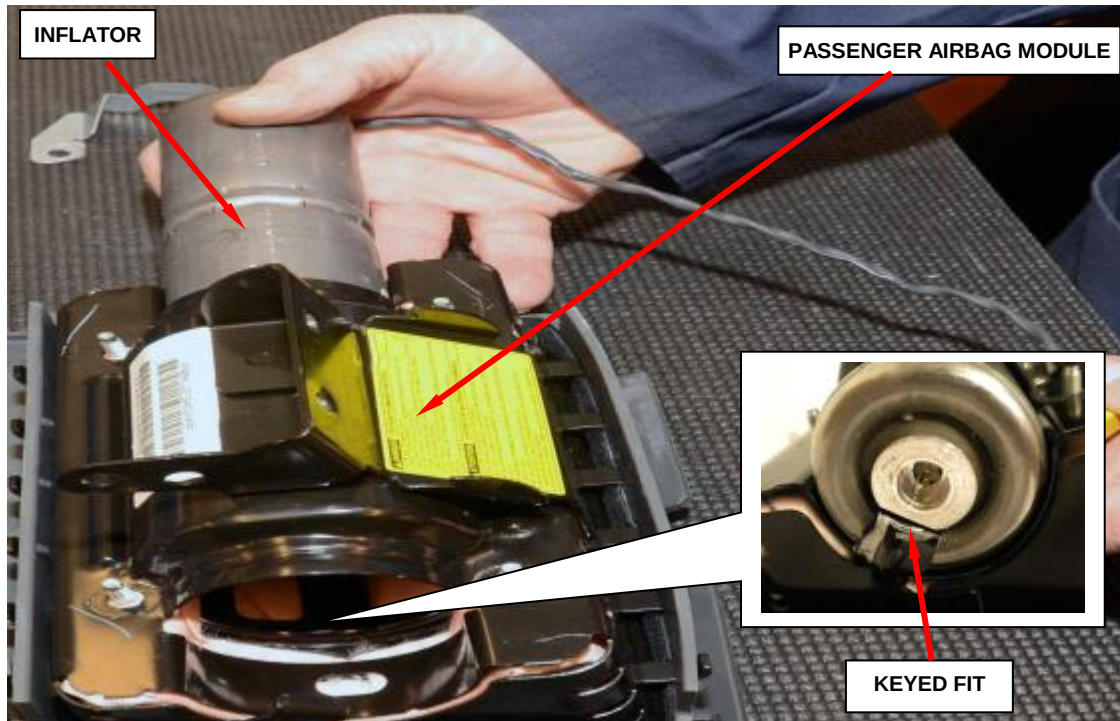

Figure 67 – Passenger Airbag Inflator to Housing
- f. Slide the inflator out of the passenger airbag module (Figure 67).
NOTE: The inflator's key MUST line up with the housing's key (Figure 67).
- m. Slide the **new** inflator into the passenger airbag module (Figure 67).
NOTE: The inflator is keyed to fit into the housing (Figure 67).